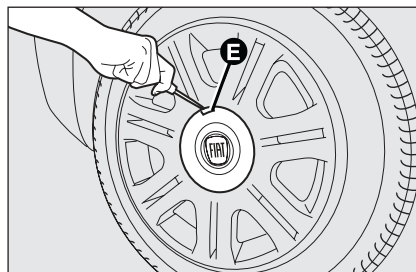

fig. 12
- If the car is fitted with alloy rims, remove the wheel hub with the screw-driver provided levering in the groove **E-fig. 12**, as shown in the figure;
- Loosen the bolts on the wheel to be replaced by about one turn with the wrench provided **E-fig. 12**; if the car is fitted with alloy rims, shake the car to facilitate removing this rim from the wheel hub;
- Operate the device **F-fig. 12** and extend the jack until groove **G** on the jack fits correctly into ridge **H** on the body near sign **I** (at about 60 cm from the front wheel centre or 80 cm from the rear wheel centre);